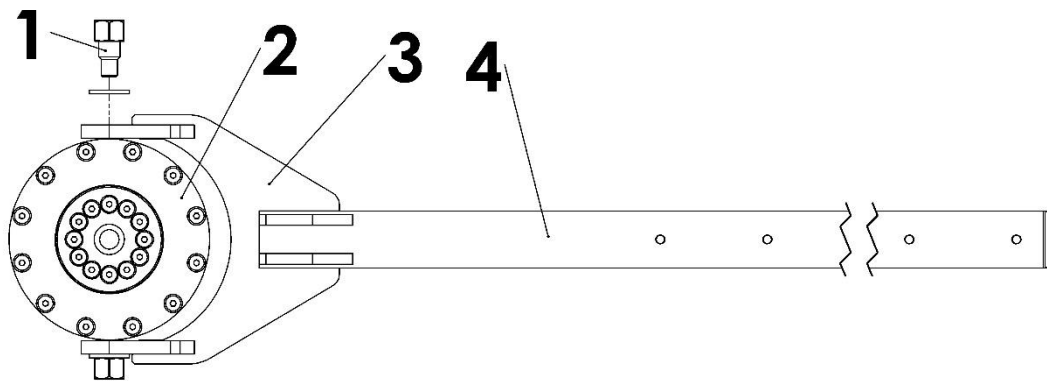

Figure 24: Fixation bearing and wheel hub rod
2. Move fixation bearing into position as per Figure 24.